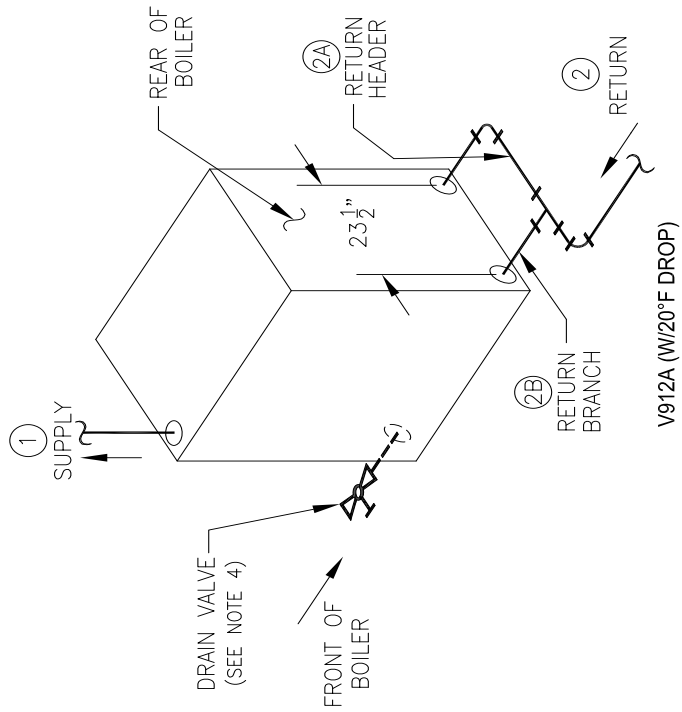

Figure 23: V9A Series Minimum Piping - Parallel - Water Boiler
6. Install required bottom blowoff/drain valve (supplied by others) per minimum piping requirements for water boilers, see Figure 23.
2. SUPPLY CONNECTIONS - Removal of top jacket is not required to connect the supply riser(s), however one may find it easier. Refer to Figure 23 or 24 for water boilers and Figure 29 for steam boilers.
3. RETURN CONNECTIONS - The boiler is secured to the shipping skid with U bolts and 3" shipping nipples. Remove the bolts and nipples. Using 3" plugs and an appropriate pipe sealant, plug the unused return connections according to the minimum piping recommendations. Refer to Figure 23 or 24 for water boilers and Figure 29 for steam boilers.
Connect supply and return piping to heating system (see Figures 23 through 29). Flow direction for hot water boilers must be from the rear return out through the top front supply. Steam boilers can pipe return to the front as an alternate location. Some boiler sizes may require the use of additional supply and return tapings. Check Figure 21 and applicable piping diagram for the boiler size you are installing.
- i. If minimum return water temperature can be maintained at 135°F and temperature differential across the system is at 40°F or less, refer to Figure 23 or 24 for recommended minimum boiler piping details.